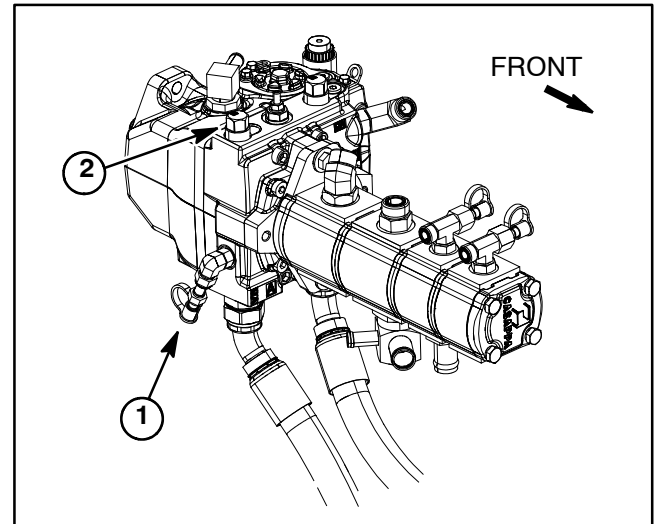

Figure 28
3. Connect a 10,000 PSI (700 bar) pressure gauge to traction circuit test port for function to be checked (Fig. 28 or 29).
7. If traction pressure is too low, inspect traction pump relief valves (Fig. 28 or 29). Clean or replace relief valves as necessary. These cartridge type valves are factory set, and are not adjustable. If relief valves are in good condition, traction pump or wheel motors should be suspected of wear and inefficiency.